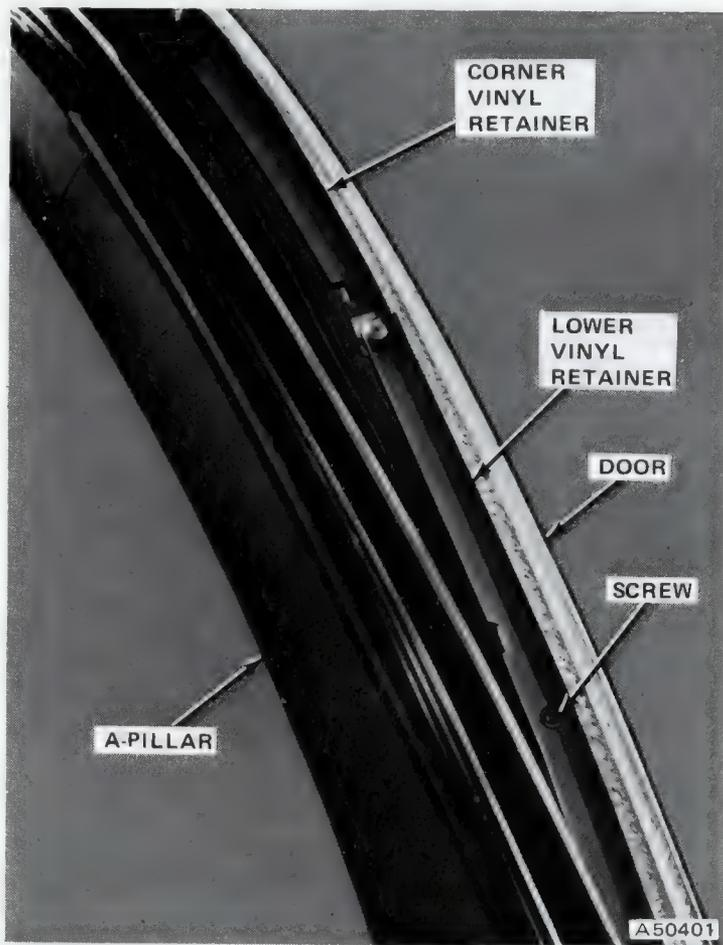

Fig. 3P-5 Removing Vinyl Retainers from Door—Pacer
- (1) Remove ornamentation mouldings, clips, and vinyl retainers (fig. 3P-5).